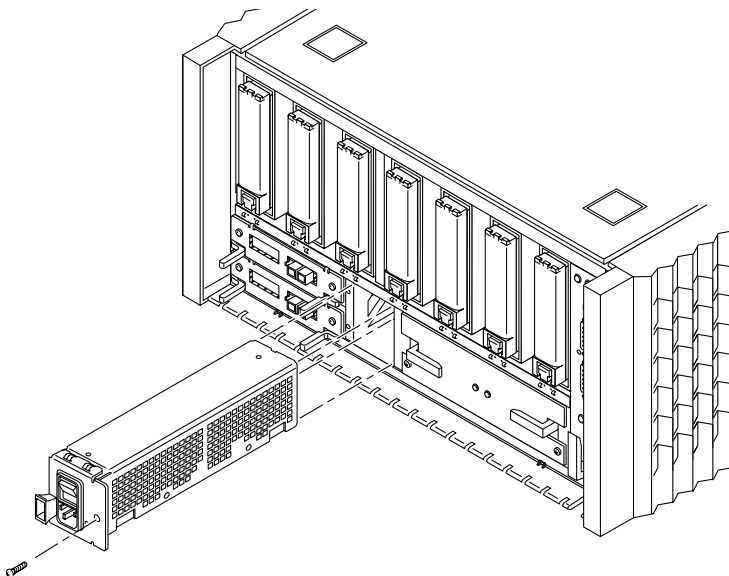

FIGURE 7-13 Removing the AC Power Filter
4. **Use the Phillips screwdriver to remove the retaining screw from the AC power filter (FIGURE 7-13).**